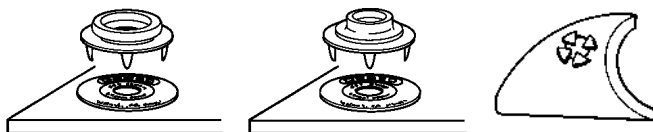

Figure 9. Installing push and clinch mat grounding snap.
- Center the prongs on the snap assembly with the label. Apply pressure to the snap until the prongs come through the back of the mat, then clinch over prongs to secure snap as shown in Figure 9.